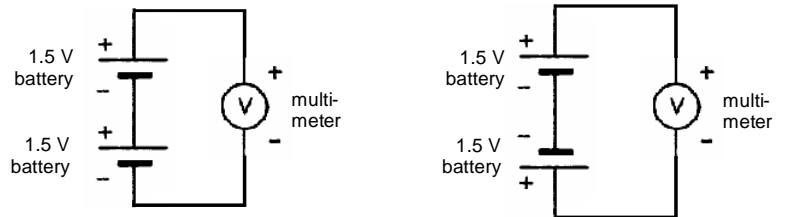

Figure 1-7.
- \* – Then connect the batteries in series, with forward polarity, as shown in Fig. 1-7 and measure the total voltage  $V_{\text{meas}}^f$ . Provide an uncertainty for this measurement based on the multimeter's specifications.
- \* – In both your notebook and lab report, you must always draw a schematic of whatever you connect, including components and any external instruments. For this step, the schematics should look like Fig. 1-7. (As you gain experience, you will learn how to draw schematics without being shown an example to copy.)